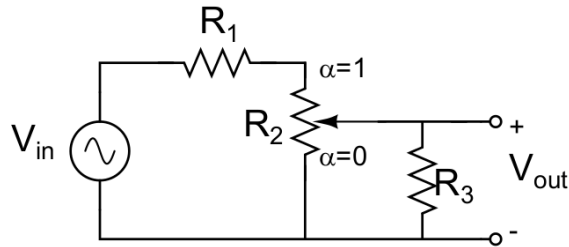

Figure 3. Audio volume knob control circuit. $R_1 = 1.5k$, $R_3 = 15k$, $R_2 = 100k$ pot.
1. Label the 3 contacts of the potentiometer R_2 on the circuit diagram above (Figure 3).